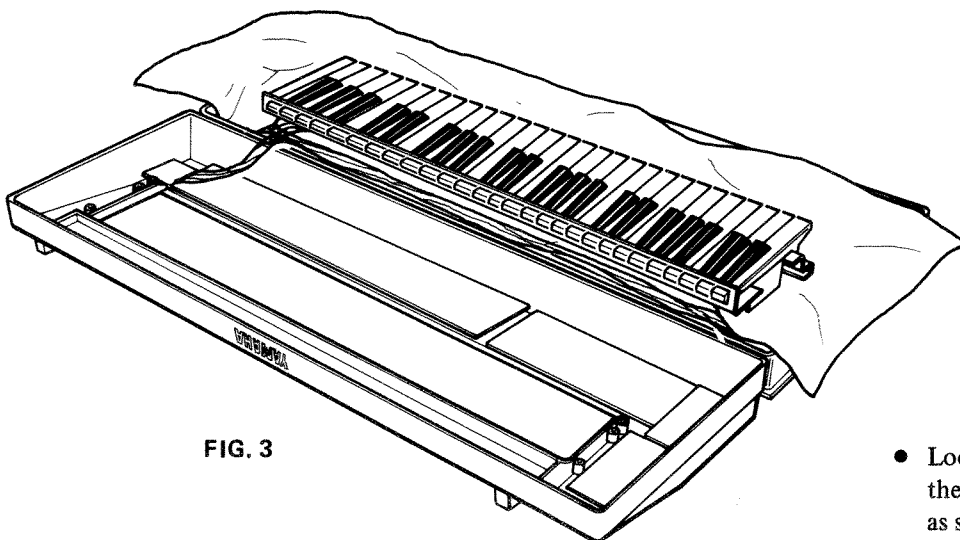

FIG. 3
- Loosen the eight screws that fasten the keyboard and it can be removed as shown in Fig. 3.